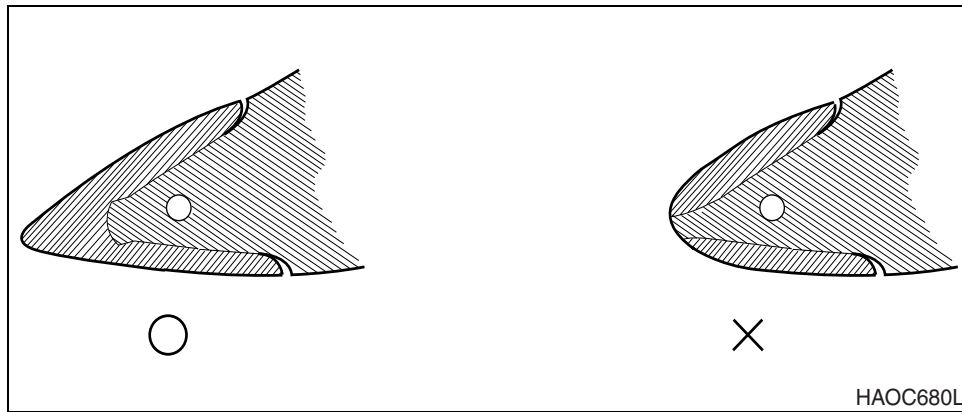

Figure 7
1. On a routine basis, inspect the bucket teeth to make sure that tooth wear or breakage has not developed. Do not allow the replaceable bucket teeth to wear down to the point that the bucket adapter is exposed. See Figure 7.
1. On a routine basis, inspect bucket teeth to make sure that tooth wear or breakage has not developed. Do not allow replaceable bucket teeth to wear down to a point that bucket adapter is exposed. See Figure 7.